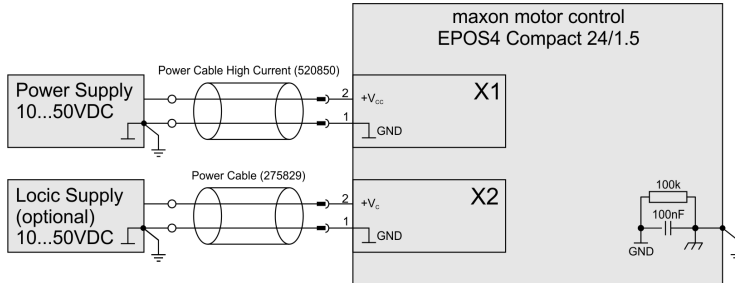

Figure 5-65 Power & logic supply
**Power supply & optional logic supply** . . . . .Figure 5-65
**Power supply & optional logic supply** ..... Figure 5-65